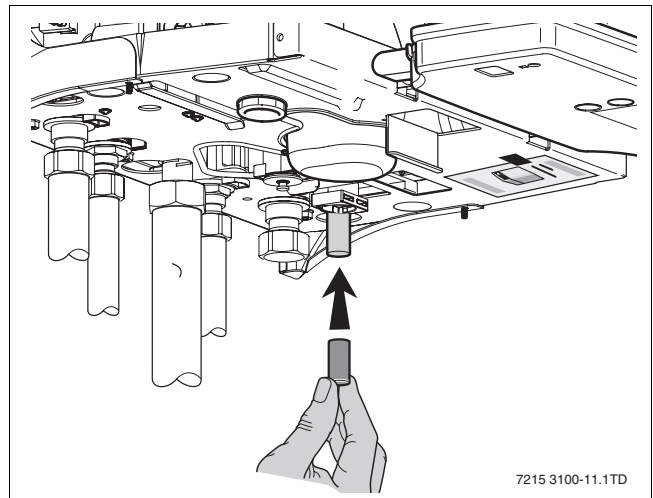

Fig. 11 Insert pipe
- Insert the small piece of pipe (→ fig. 11).